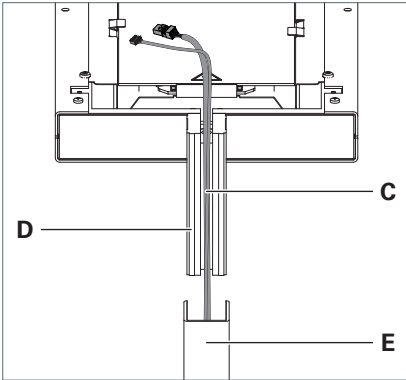

Fig. 2: Mounting the light head on the column.
- Guide the cables **C** from below into the groove in the support arm **D** at the light head and insert the support arm completely into the column **E**, see Fig. 2.